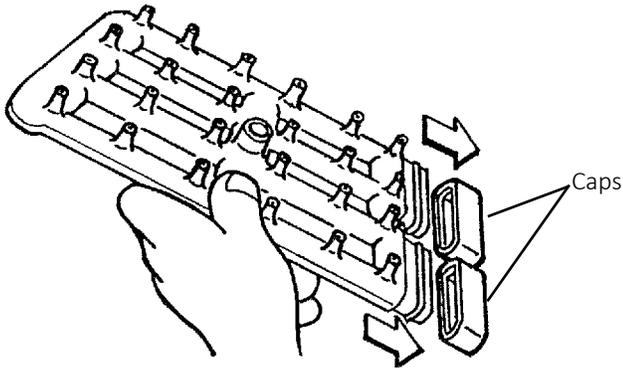

Fig. 33
- Remove the two caps. See Fig. 33.